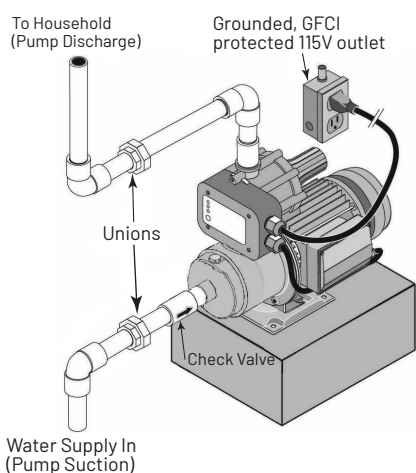

Figure 2 – Typical household booster installation. Purchase plumbing fittings separately. Consult code for relief valve/pressure regulator requirements
If not already in the plumbing system, install a pressure relief valve in the pump discharge line capable of passing the full pump flow at 100 psi (689 kPa) (See Figure 2). If local code requires installation of a pressure relief valve capable of handling the
- Install the elbows in the main water supply line. Point them toward the pump. See Figure 2.
- Install piping from elbows to pump including a union in each line and a check valve in the pump discharge line. The arrow on the check valve must point away from the pump discharge (see Figure 2). If not already in the plumbing system, install a pressure relief valve in
⚠ WARNING *Hazardous voltage. Risk of dangerous or fatal electric shock. Plug the pump into a 115 Volt, 60 Cycle, Ground Fault Circuit Interrupter (GFCI) protected grounded outlet only. The pump is equipped with a 3-wire grounded cord and plug. Do not modify or remove the plug. Make sure the outlet meets the National Electric Code or the Canadian Electrical Code, as applicable. To avoid dangerous electrical shock hazard, keep the cord dry at all times. See Figure 2.*